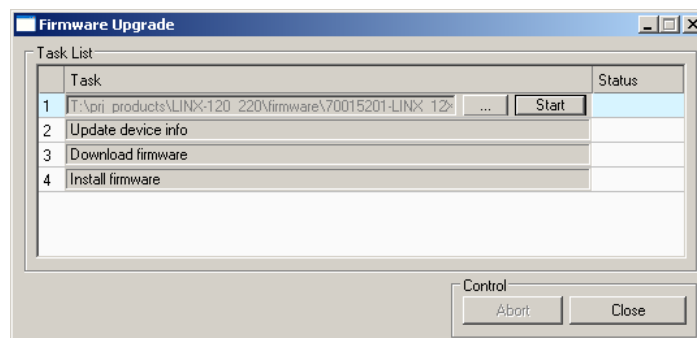

Figure 46: Firmware Update dialog of the Configurator.
8. This opens the **Firmware Update** dialog as shown in Figure 46. Click on the button  and select the firmware image.